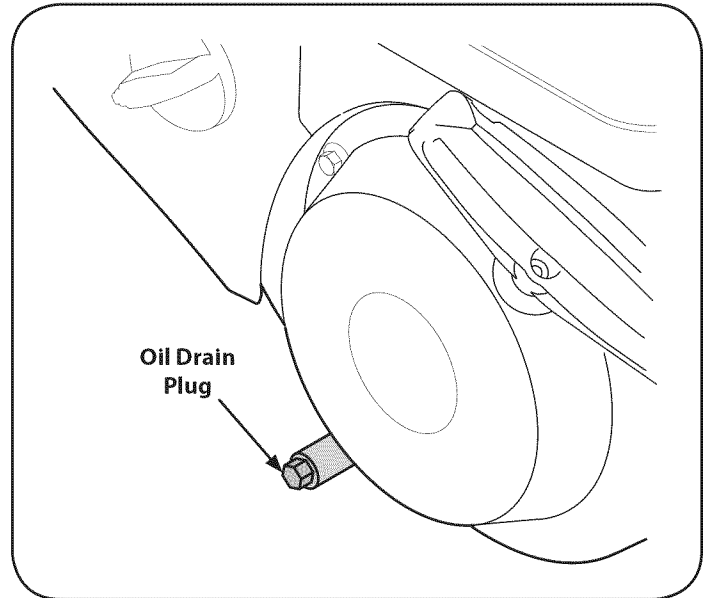

Figure 15
3. Remove oil drain plug. See Figure 15 on next page.